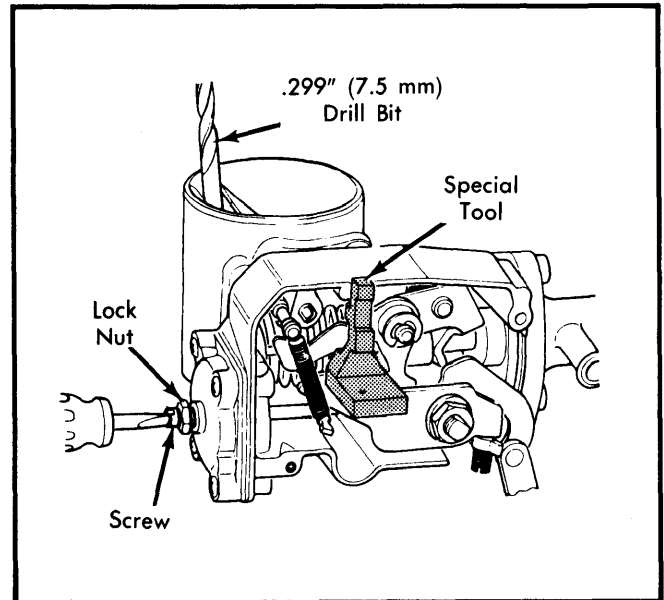

Fig. 2 Installing Special Tool for Choke Pull-Down Adjustment
1) Remove air cleaner and choke linkage cover plate. Place special tool (Part No. 9763.43) on linkage roller (roller in notch in tool). See Fig. 2. Tool should be against upper housing.